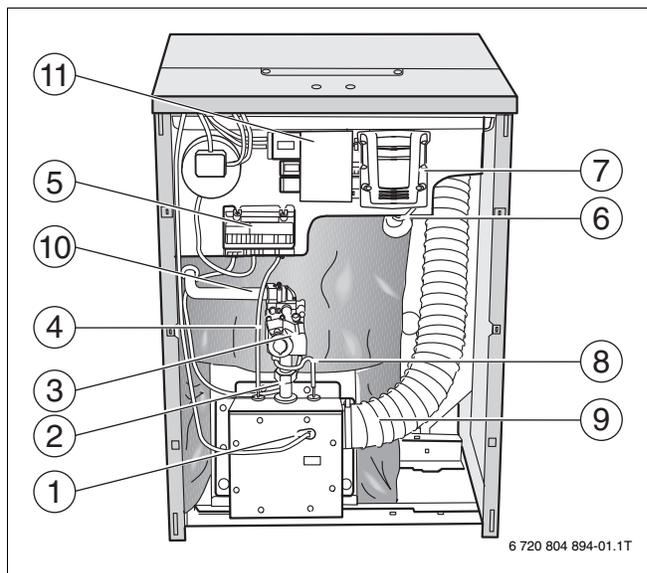

Fig. 8 Front view
28. Install gas burner in boiler in reverse order of removal. Tighten the fixing nuts well. Make sure that the front edge of the burner box cover (→ Fig. 8, page 8) is properly engaged in the sealing grommets (→ Fig. 8, page 8).